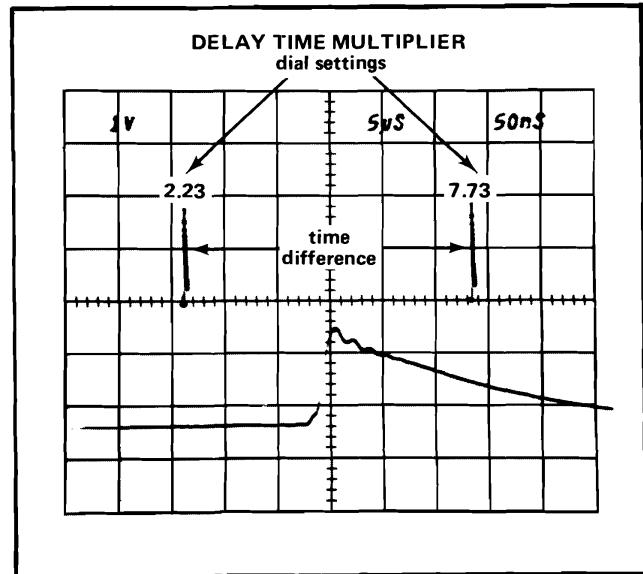

Fig. 2-12. Measuring time difference using delayed sweep.
2. Set the VOLTS/DIV selector to produce a display about three divisions in amplitude (see Fig. 2-12).
5. Set the 7B70 (B) TIME/DIV to a setting 1/100 of the A TIME/DIV sweep rate. This produces an intensified portion about 0.1 division in length.
Example: Assume the first dial setting is 2.23 and the second dial setting is 7.73 with the TIME/DIV set to 5 μ S (see Fig. 2-12).